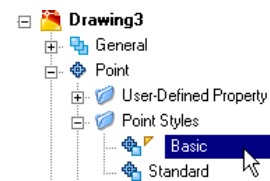

*Figure 2-61 The Prospector List View showing the ground points*
4. Now, right-click on **Point Groups** in the **Prospector** tab of the **Toolspace** palette; a shortcut menu is displayed. Choose **New** from the shortcut menu; the **Point Groups Properties - Point Group (1)** dialog box is displayed.
8. Expand the **Point Groups** collection and select the **Ground Points** point group; all ground points are displayed in the **Panorama List View**, as shown in Figure 2-61.